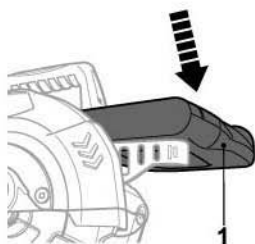

Fig. 22
1. Turn the depth gauge knob (22) anticlockwise to increase the cutting depth.
2. Turn the depth gauge knob (22) clockwise to decrease the cutting depth (Fig. 22)